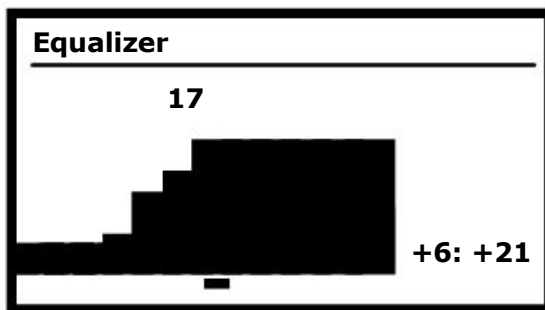

Fig. 21
- **EQUALIZER** Allows the user to set unique volume levels to 12 different VDI groups. The audio level is adjustable from 0-17 for each group. When the level is set to 0 there is no audio response while a setting of 17 is maximum audio response. To enter the Equalizer adjustment mode press the button [+]. On the screen will appear the Equalizer menu for adjustment (a Fig. 21):